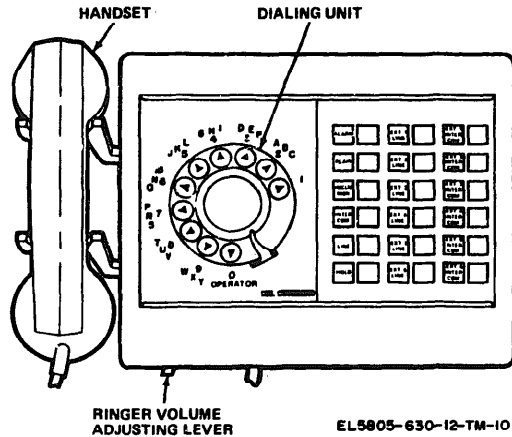

Figure 3-1 Call Commander Telephone Set, type 860 and 860A controls.
*a. Call Commander* (fig. 3-1).